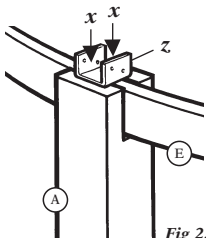
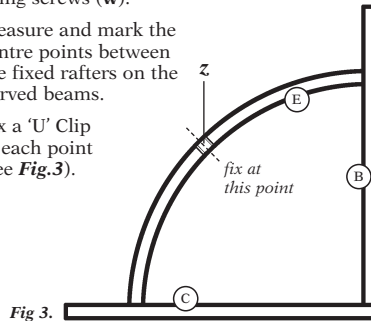

Fig 2.
Fig 3.
8. Fix 'U' Clips (z) at the top of each post as shown in Fig.2.
9. Fix Rafters (B) and (C) together and locate in the 'U' Clips at the top of the posts. Ensure the rafters are equally spaced at the end of the 'U' Clips and fix in place with screws (x).
12. Fix a 'U' Clip (z) at each point (see Fig.3).